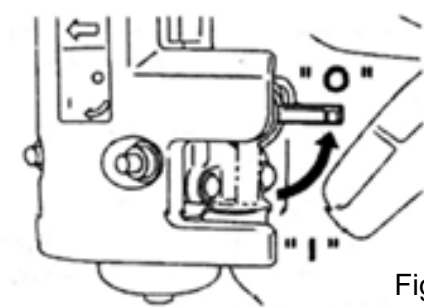

Fig. 13
3. Close the fuel valve. (Fig. 13)